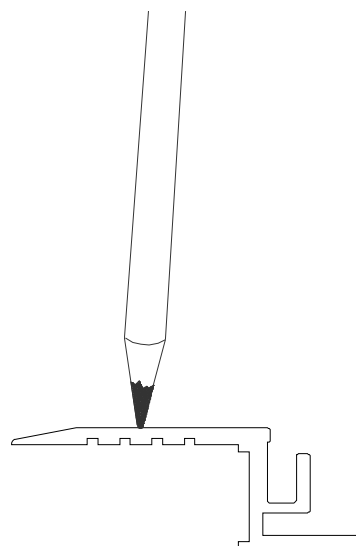
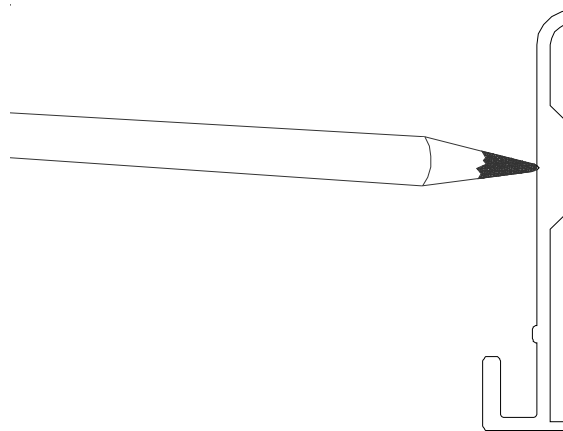

Figure 2
Figure 3
STEP 3. Select the base members and the wall members. If the anchor holes have not been predrilled in the base members and the wall members at the factory, mark the locations for the anchor holes on the base members and on the wall members (see Figure 2 and Figure 3). Standard anchor spacing is 20" O.C. with an anchor at a nominal 3" from each end of the base member or wall member. Drill the anchor holes (countersunk) into the base members and wall members at the marked locations.